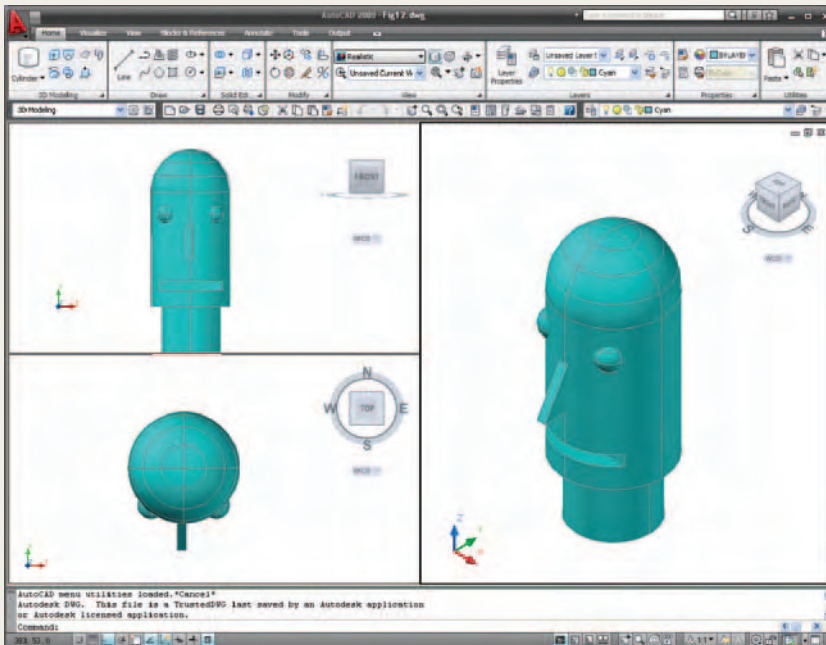

Fig. 13.12 Exercise 1
- Using the **Cylinder**, **Box**, **Sphere**, **Wedge** and **Fillet** tools, together with the **Union** and **Subtract** tools and working to any sizes thought suitable, construct the 'head' as shown in the **Three: Right** viewport as shown in Fig. 13.12.